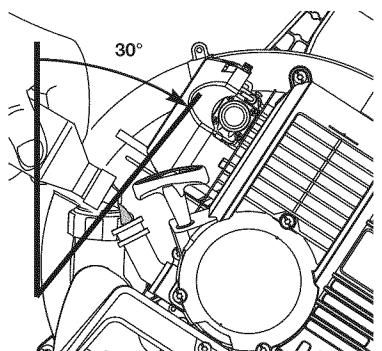

Fig. 22
4. Tilt the unit 30° to the side (Fig. 22).
- NOTE:** Use the bottle and spout saved from initial use to measure the correct amount of oil. The top of the label on the bottle measures approximately 3.04 ounces (90 ml) (Fig. 22). Check the level. See *Checking the Oil Level*. If the level is low, add a small amount of oil and recheck. Do not overfill (Fig. 22).